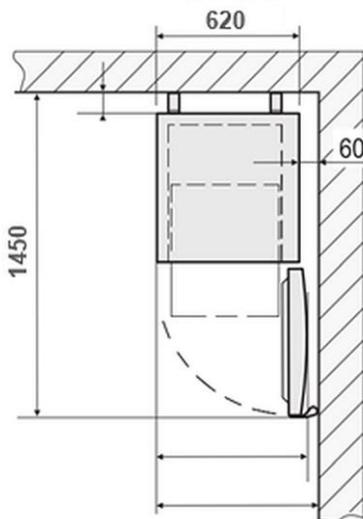

Fig. 5
- If the appliance is to be installed in a corner, maintain a lateral clearance of at least 60 mm (Fig. 5).